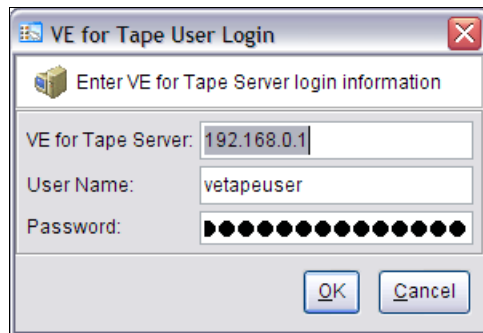

Figure 6-21 TS7530 VE for Tape User Login
4. In the VE for Tape Login window (Figure 6-21) specify the information required to register and connect to a TS7530 VE for Tape Server. Click **OK**.